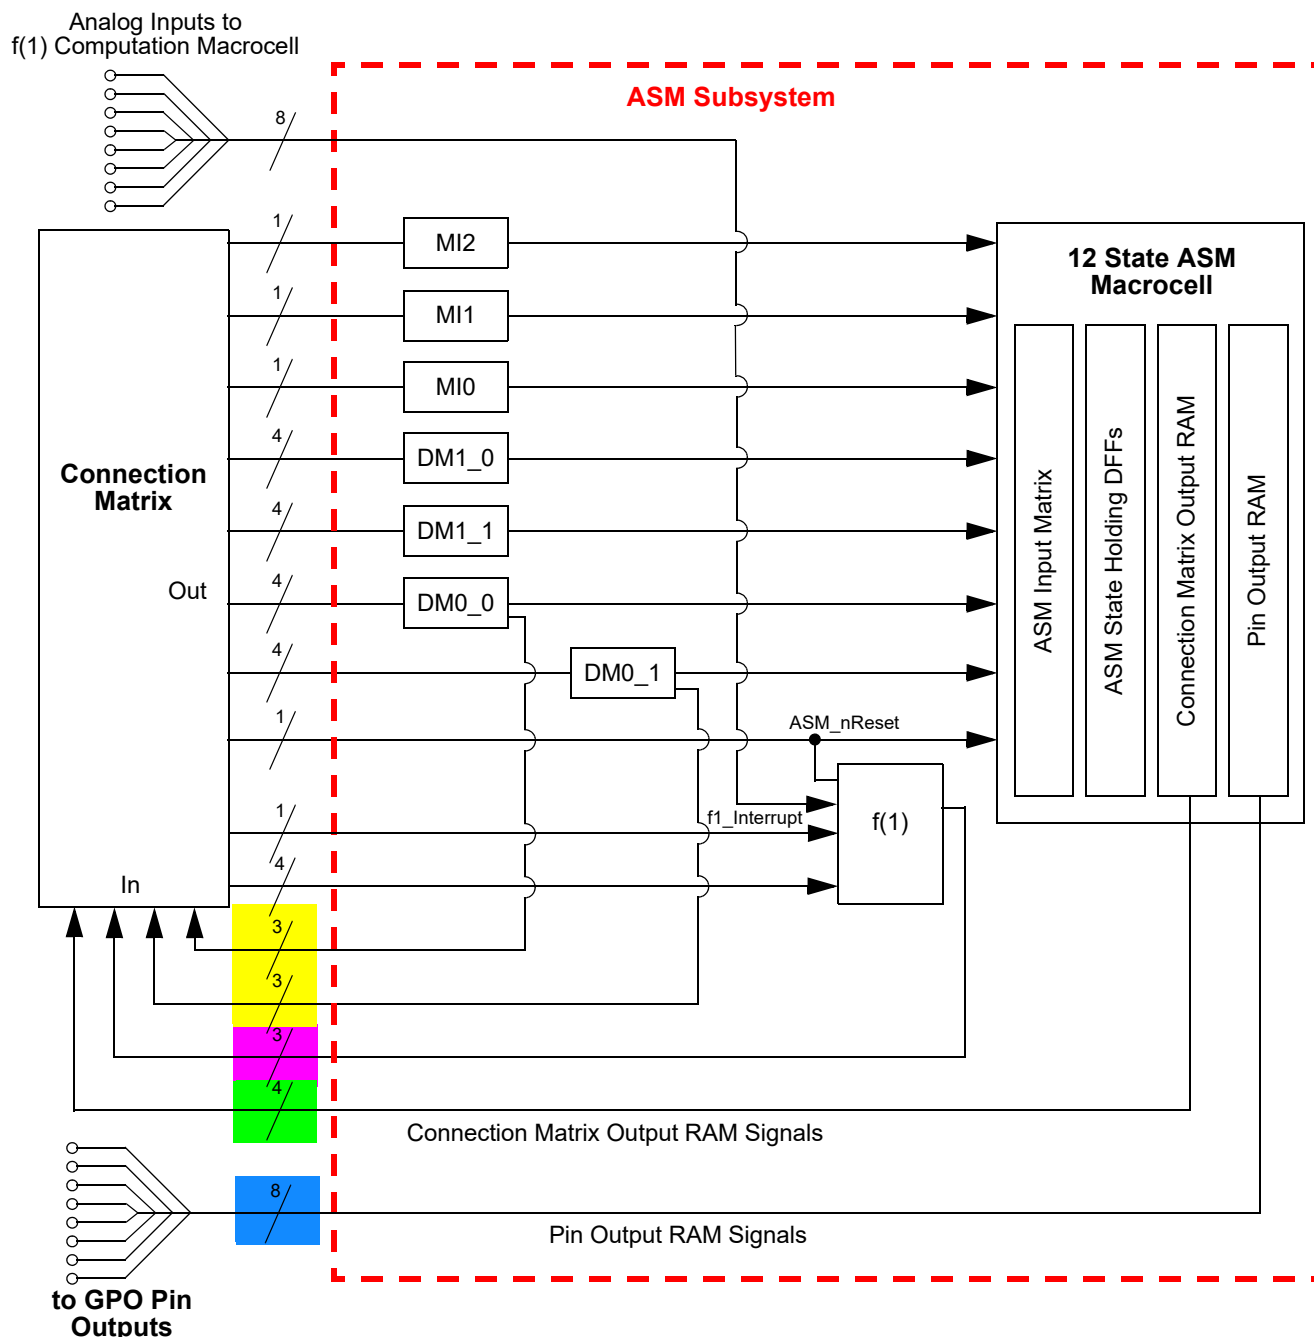

Figure 95: ASM Subsystem Input Signals
The ASM subsystem has a total of 21 output signal lines, as shown in Figure 95.
There are a total of 4 output signals from the ASM macrocell which go to the Connections Matrix inputs and from there can be routed to other internal macrocells or pins. These signals are shown in Figure 95, highlighted in green. The 4 outputs are user defined for each of the possible 12 states. The user selection for the output states is held in the Connection Matrix Output RAM.
There are a total of 8 output signals from the ASM macrocell which go directly to the 8 GPOs. These signals are shown in Figure 95, highlighted in blue. The 8 outputs are user defined for each of the possible 12 states. The user selection for the output states is held in the Pin Output RAM. Each of these GPOs has a single selection bit which defines the GPO input source as either the ASM Output RAM signal or the Connection Matrix signal.
The f(1) Computation Macrocell has 3 output signals that go to the Connection Matrix, and from there can be routed to other internal macrocells or pins. These signals are shown in Figure 95, highlighted in pink.